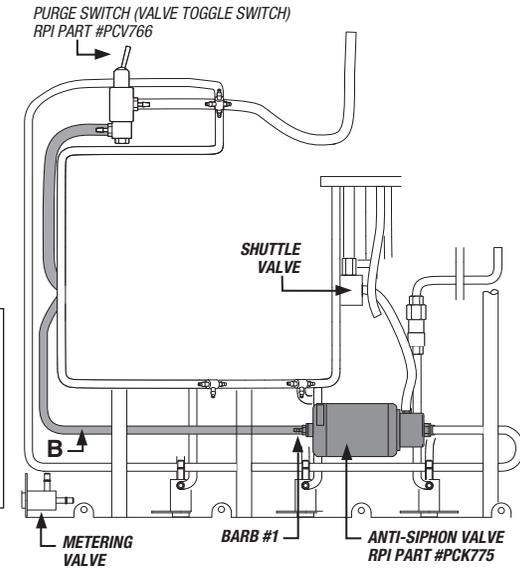

Figure 5
- 7) Remove the green tubing "C" from both the Metering Valve and the Shuttle Valve. Connect the new green tubing that is attached to **BARB #3** on the Anti-Siphon Valve to the Shuttle Valve (see Figure 5).